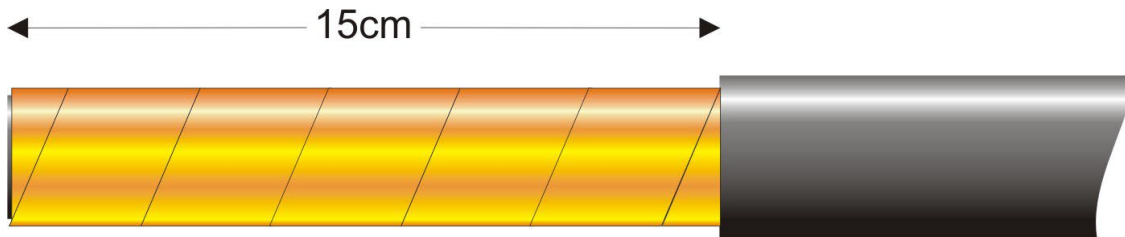

Figure 2.
1. First, remove the black outer sheath for a length of 15 cm by cutting radially round the HVSC Plus cable with a sharp knife. The lengthwise cut can also be completed with a knife, but take great care not to score or damage the copper tape. Cut and remove the material lining over the copper tape. (Fig 2)